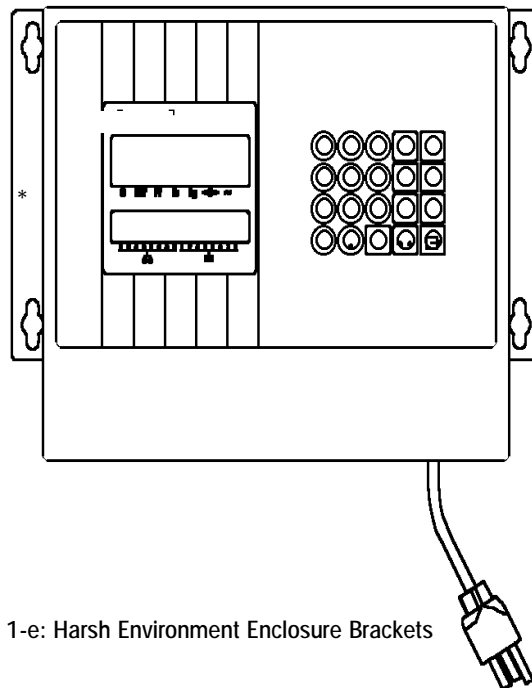

Figure 1-e: Harsh Environment Enclosure Brackets
2. Mount the brackets using the four stainless steel screws supplied with the unit. Refer to Figure 1-e. Note the correct positioning of the mounting brackets. The slotted holes must protrude beyond the enclosure and the bracket tabs must point toward the front as shown.
4. Using the dimensions given in Figure 1-b, prepare the mounting surface to accept the enclosure. The mounting surface and brackets must be able to support a total of 45 lb (20 kg).